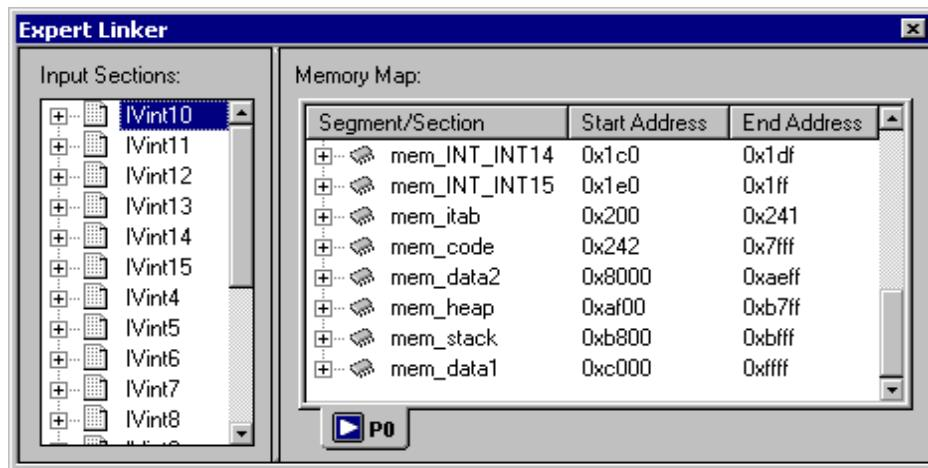

Figure 4-7. Expert Linker Window
- The **Input Sections** pane (Figure 4-7) provides a tree display of the project's input sections (see “Input Sections Pane” on page 4-12).